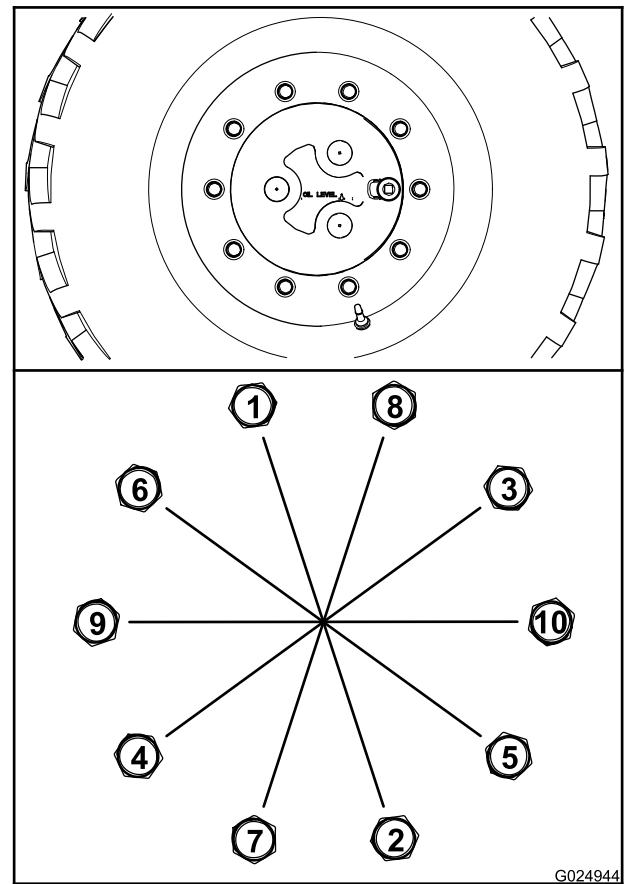

Figure 88
- B. Torque all the nuts to 200 N-m (150 ft-lb) in the sequence shown in Figure 88.
- C. Torque all the nuts to 300 N-m (225 ft-lb) in the sequence shown in Figure 88.
- A. Torque the all wheel nuts to 100 N-m (75 ft-lb) in the sequence shown in Figure 88.